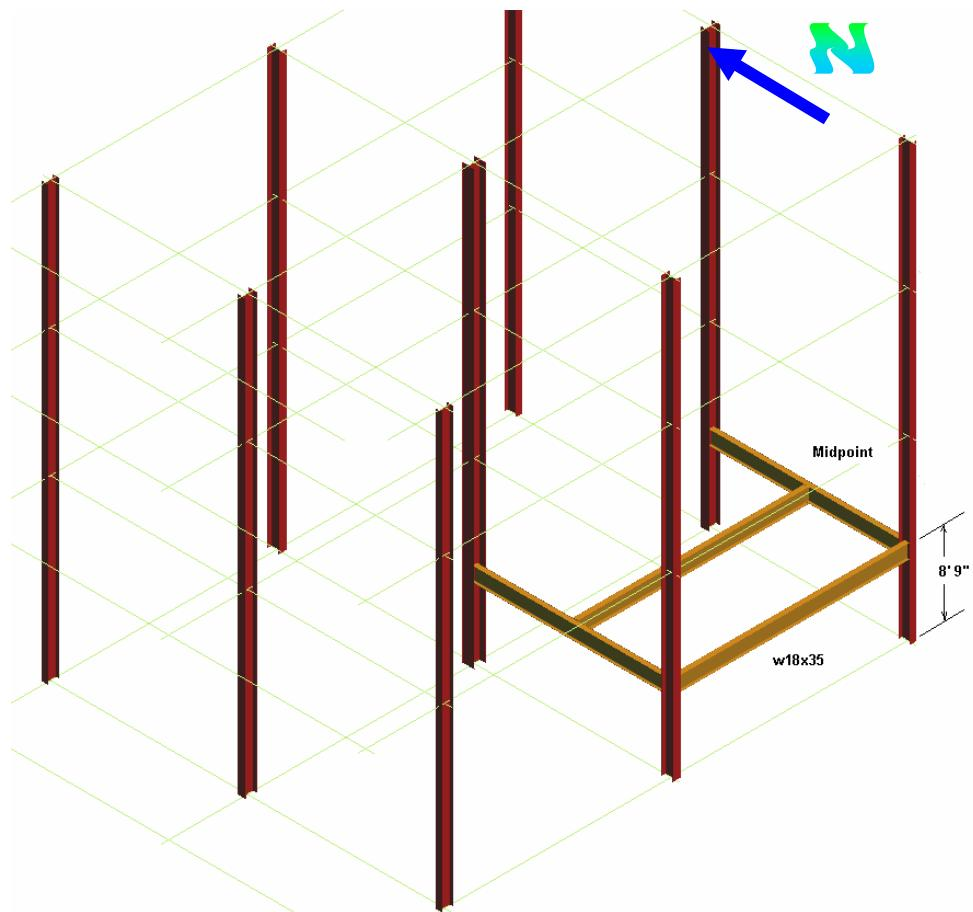

Figure 10 – ISO View of the Two-Story Building
- 25 Place three horizontal beams on the far-east bay of the building as shown in Figure 10.